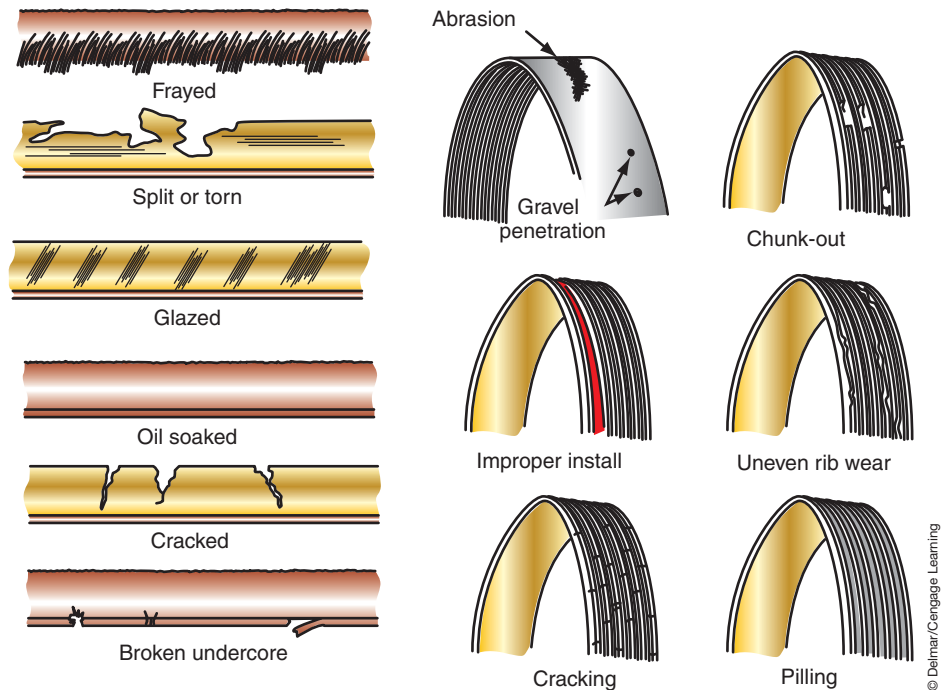

FIGURE 7-1 The generator drive belt must be replaced if any of these conditions exist.
1. Condition of the drive belt (Figure 7-1). If the drive belt is worn or glazed, it will not allow enough rotor rpm's to produce sufficient current.